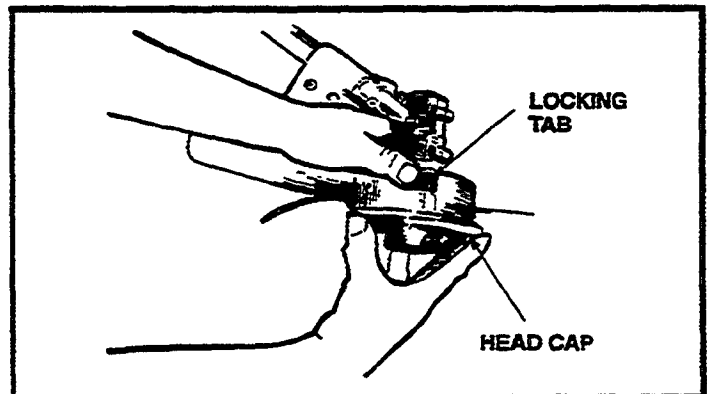

Figure 17
- Push in one of the locking tabs, releasing it from its notch (Figure 17) and pull on the rotary head cap.